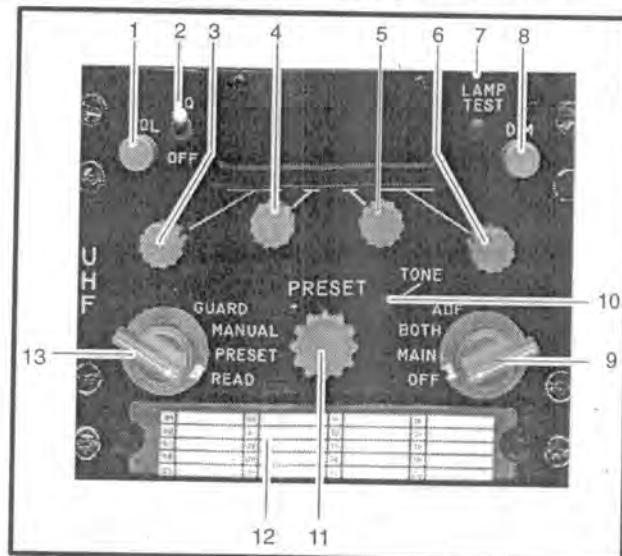

Figure 7-13 ARC-159 Control Panel
7.124 The ARC-159 UHF Radio consists of a control panel (Figure 7-13) with a built-in receiver-transmitter located on the right console, and an antenna located on the lower forward fuselage. Transmission is accomplished by rearward pressure on the throttle comm switch. In the event of a throttle mic-switch failure, an alternate transmit facility is provided by holding the audio panel ALT switch in the ALT TX position. The ALT TX position is spring-loaded and returns to the ALT position upon release.
7.127 The operating controls and indicators are shown in Figure 7-13 and described in Table 7-14.